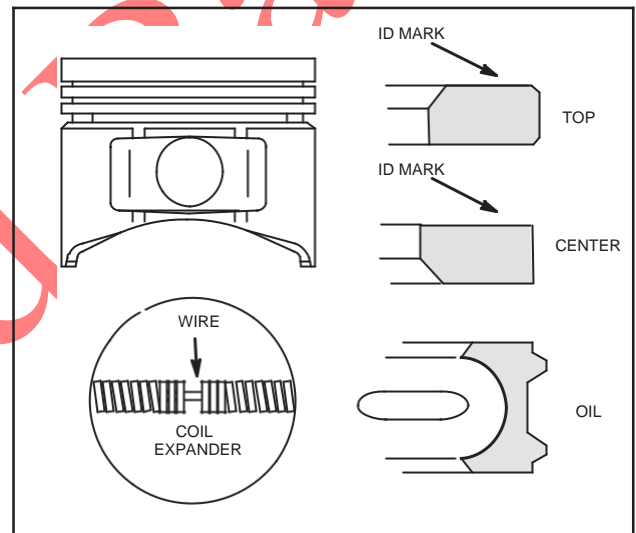

Fig. 11 – Piston Ring Installation – Model 445700
1. Install piston rings using ring expander, Tool #19340, Fig. 11.